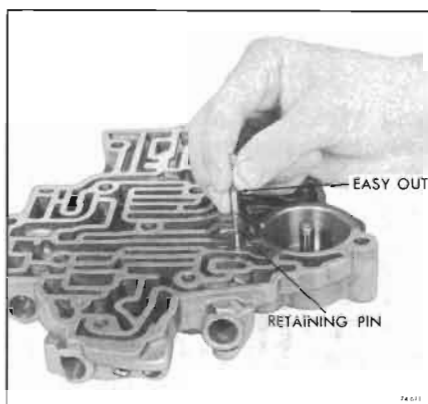

Figure 74-611
13. Remove the 1-2 accumulator secondary valve retainer pin from the machined face of the valve body with an easy-out type extractor and the 1-2 accumulator valve plug. See Figure 74-611.